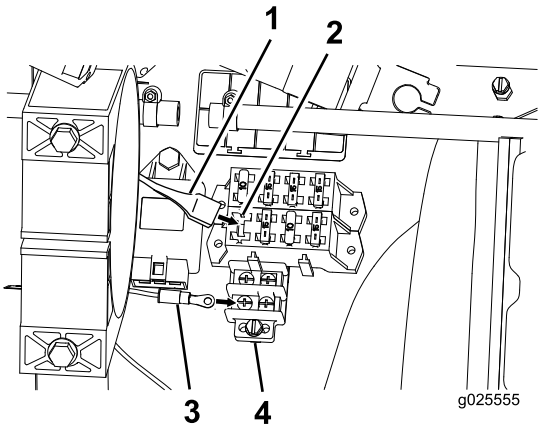

Figure 20
1. Connect the wire harness to the fuse block and grounding wire to the grounding block (Figure 20).